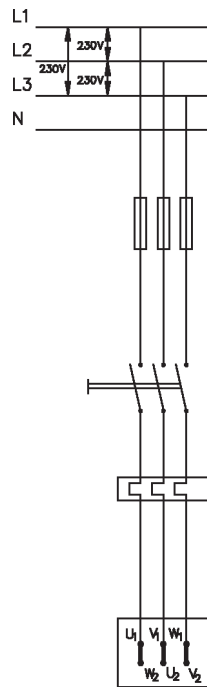
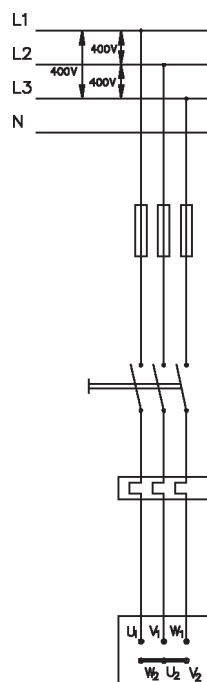
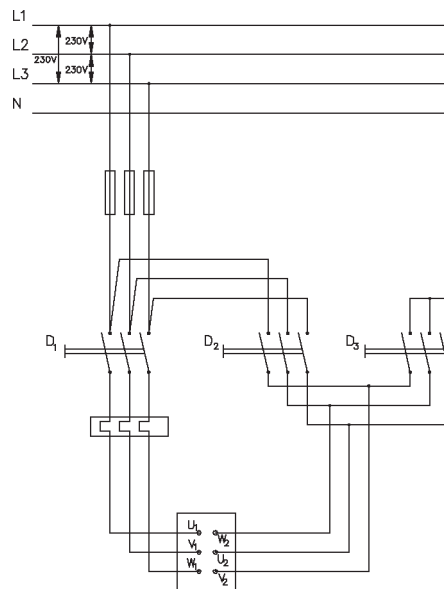

Figure 7:
Figure 8:
Figure 9:
- 230/400 V : These motors can be connected in a circuit of 230 V between the phases. The windings are then in a delta configuration (see figure 7). In a circuit with 400 V between the phases, the windings are in a star configuration (see figure 8).
- 400 V Δ : In a circuit with 400 V between the phases, these motors are connected in a delta configuration (figure 8). Remark: Motors with a power of 3 kW and higher are usually not connected directly in delta configuration (the initial current rises to too high a value immediately during start-up. The motor starts, connected in star configuration (see figure 9: switches D1 and D3 closed) and then after a few seconds as the motor comes up to speed is switched to delta configuration (switches D1 and D2 closed and D3 open). This is achieved in a star-delta connection.